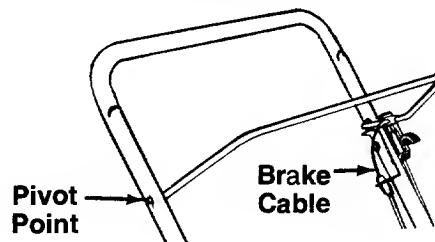

FIGURE 22.
**Blade Control**—Lubricate the pivot points on the blade control handle and the brake cable at least once a season with light oil. See figure 22. The blade control must operate freely in both directions.